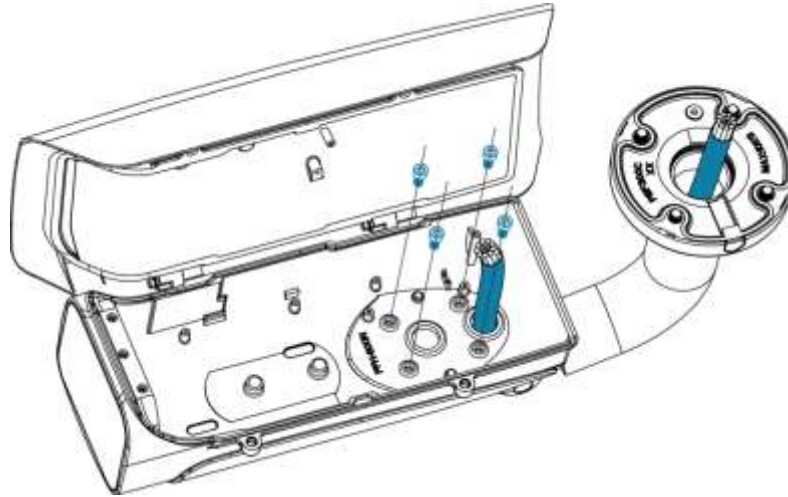

Figure 3-3
Step 2 Fasten the bracket onto protective housing, as shown in Figure 3-3.